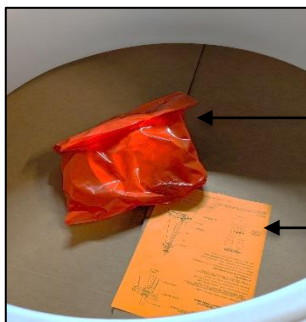

FIG.7 RED BAG AND
5. INSTALLATION INSTRUCTIONS (shown in FIG. 7) - Please completely read the install instructions before starting installation.
6. RED BAG (shown in FIG. 7) contains below following items: